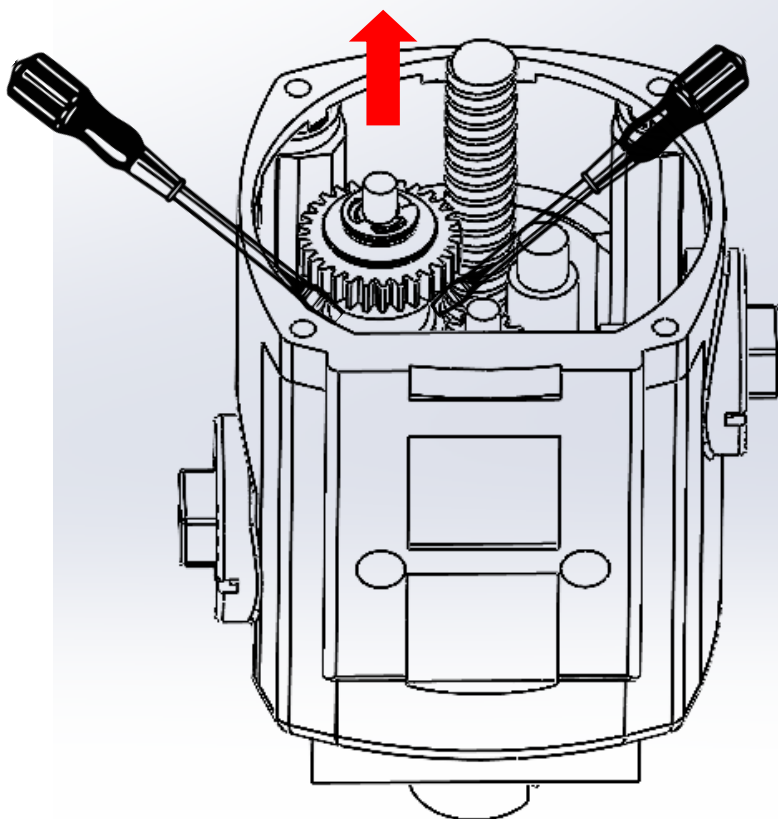

Figure 5.18
5.6.3 Using 2 levers, remove the part (mechanical clutch) in the direction of the red arrow (see figure 5.18) and if there is grease, clean it up;